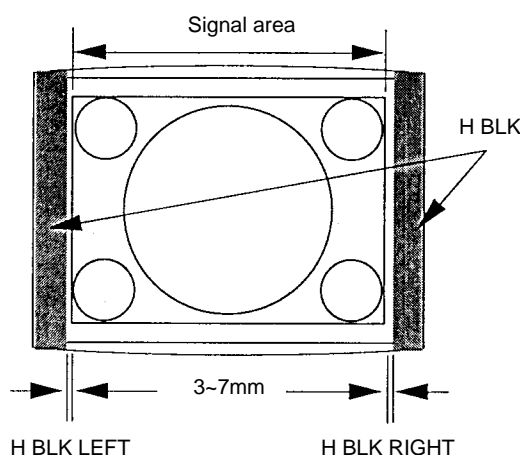

Fig. 1-7
11. Adjust the H. BLK. LEFT data so that the blanking is position at 6 mm outside the left-most end of the cross-hatch signal area. (Fig. 1-7.)
12. Adjust the H. BLK. RIGHT data so that the blanking is position at 3 mm outside the right-most end of the cross-hatch signal area. (Fig. 1-7.)
4. Adjust the H. BLK. LEFT data so that the blanking is position at 7 mm outside the left-most end of the cross-hatch signal area. (Fig. 1-7.)
5. Adjust the H. BLK. RIGHT data so that the blanking is position at 7 mm outside the right-most end of the cross-hatch signal area. (Fig. 1-7.)